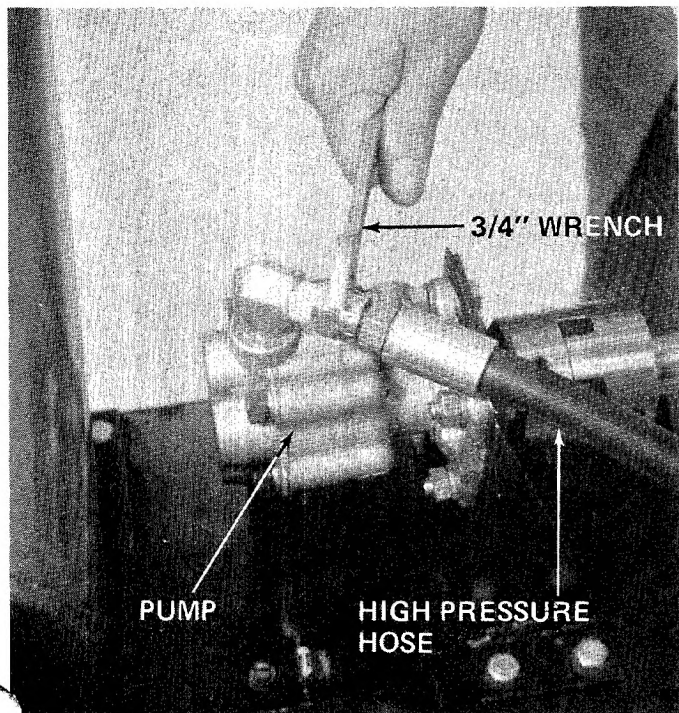

FIGURE 9
9. Secure the other end of high pressure hose to pump. A 3/4" wrench is required. See figure 9. Hold 5/8 hex on hole assembly while tightening cap. Hold 5/8 hex on hole assembly while tightening cap.